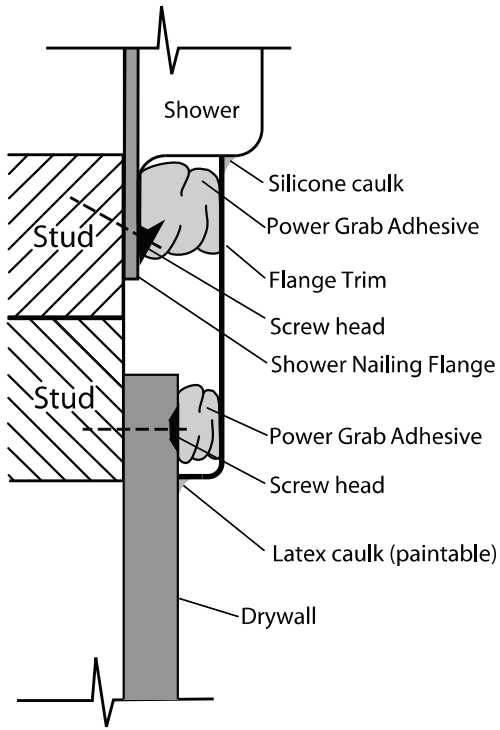

Figure 8
- Apply silicone caulk and latex as shown in Figures 8 and 9.